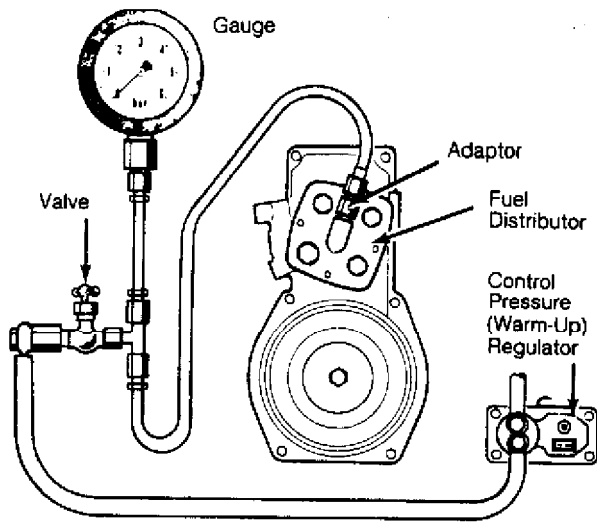

Fig. 5: Pressure Gauge Installation
2) Install pressure gauge to perform fuel pressure tests. On all models, pressure gauge is installed in line between control pressure regulator and fuel distributor. See Fig. 5.